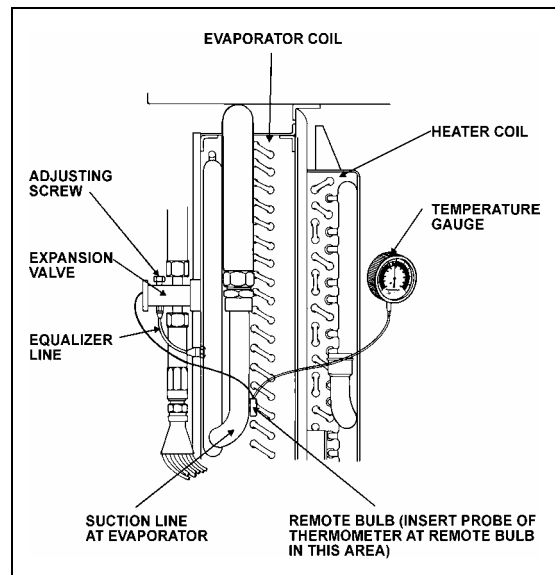

FIGURE 35: SUPERHEAT ADJUSTMENT INSTALLATION 22046
The starting method of adjusting the superheat is to unscrew completely the main evaporator expansion valve adjusting screw, then screw in 13 turns clockwise for 134A (Fig. 35). Afterwards, the following procedure should be followed:
3. Install a remote reading thermometer to the evaporator outlet line near the existing remote bulb (Fig. 35).